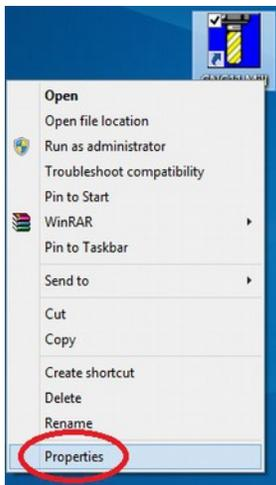

Figure 6.7.1
3. Select **properties** as shown in Figure 6.7.1.